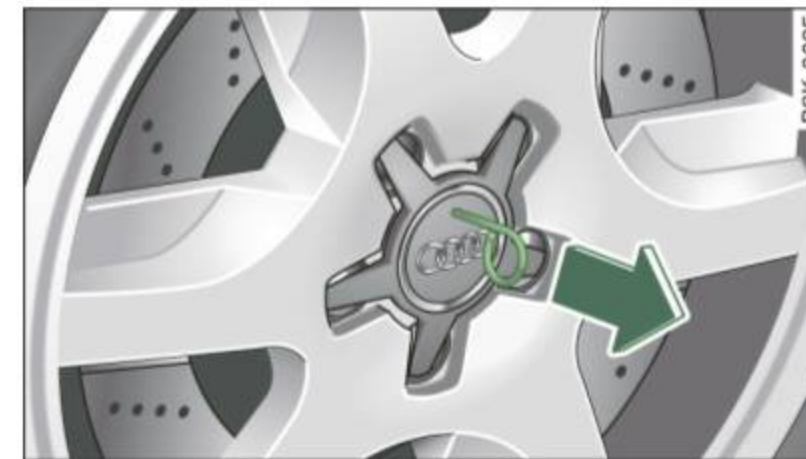

Fig. 221 Changing a wheel: removing the wheel cover
- Pull off the **decorative wheel cover** ⇒ fig. 221. ■